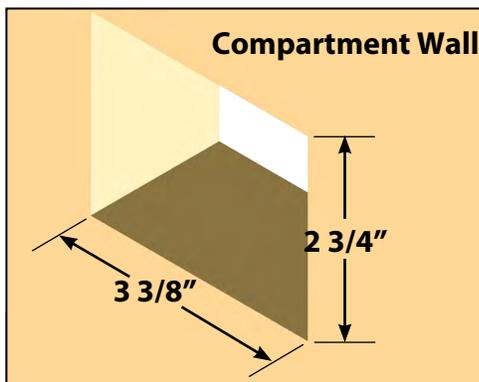

Fig.18
3. Cut a hole in the wall of the compartment $3\frac{3}{8}$ " wide by $2\frac{3}{4}$ " high so the top and bottom horizontal cuts are parallel to the floor of the compartment (Fig. 18).